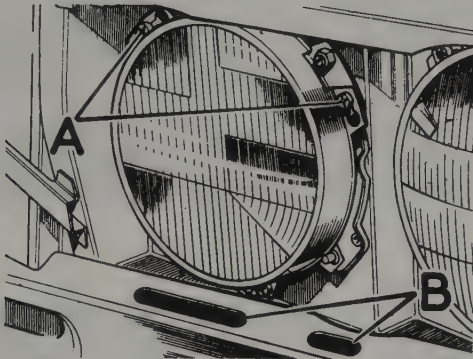

Fig. 10.24. Headlamp sealed beam unit securing screws (A) and rubber grille pad slots (B)
- 2 Slacken the three screws "A" (Fig.10.24), turn the lamp unit anticlockwise and disengage it from the screws.